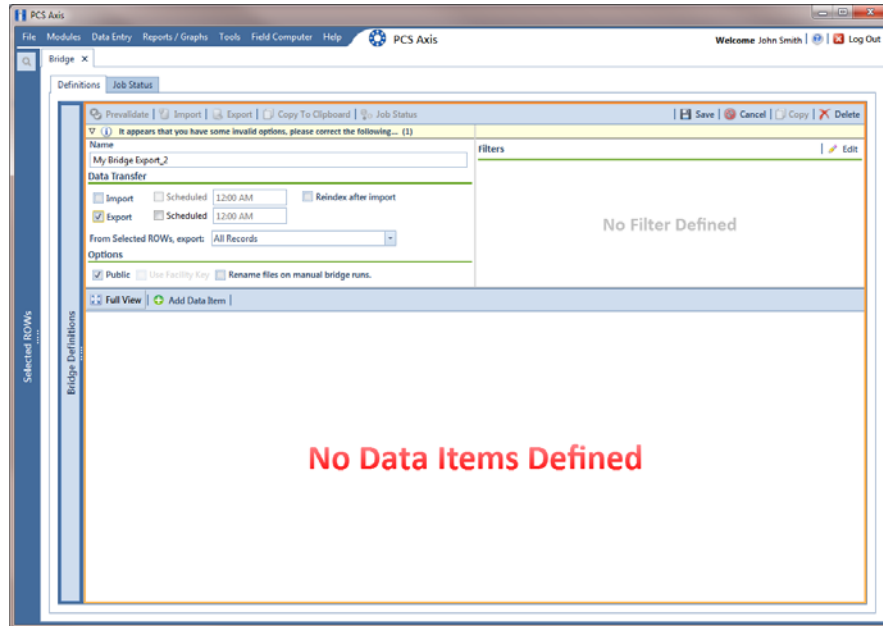

Figure 10-15. Bridge Export Definition
- 4 Type a unique name for the definition in the **Name** field (Figure 10-15, page 470).
- 5 To set properties in the *Data Transfer* group box, follow these steps (Figure 10-15, page 470):
- 6 To set properties in the *Options* group box, follow these steps (Figure 10-15, page 470):